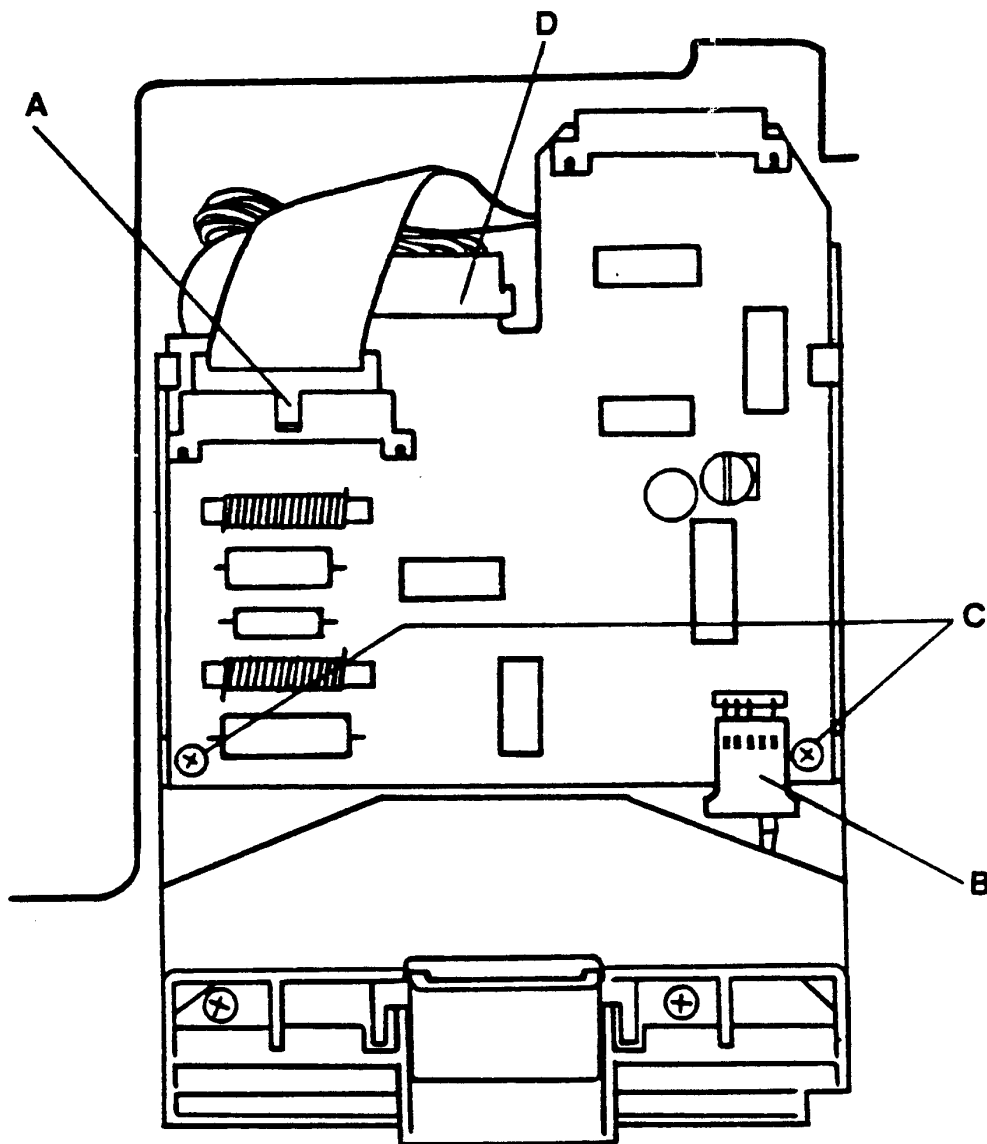

FIGURE 4.2
7. Disconnect the disk ribbon cable by pushing on the center tab of the plug with a small screwdriver. Do not pull it out by the cable. Refer to Figure 4.2 item A. Disconnect the read/write head cable. Refer to Figure 4.2 item B. Do not attempt to remove motor control cable yet. Refer to Figure 4.2 item D.
8. Remove and retain the two small Phillips head mounting screws which hold the Analog board at the front of the casting. Refer to Figure 4.2 item C.
10. At this time disconnect the motor control cable. Refer to Figure 4.2 item D. Note there are four nylon locking pawls which engage two holes in the board from both the top and bottom. These must be disengaged before the connector can be disconnected.